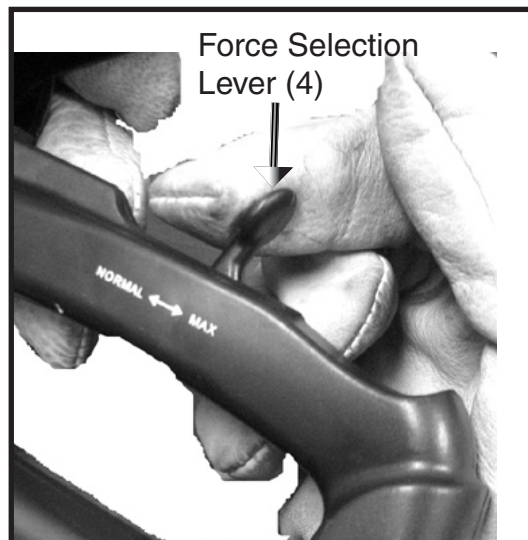

Figure 3
2. Set the Force Selection Lever (4) to either “Normal” or “Max”-see Figure 3.